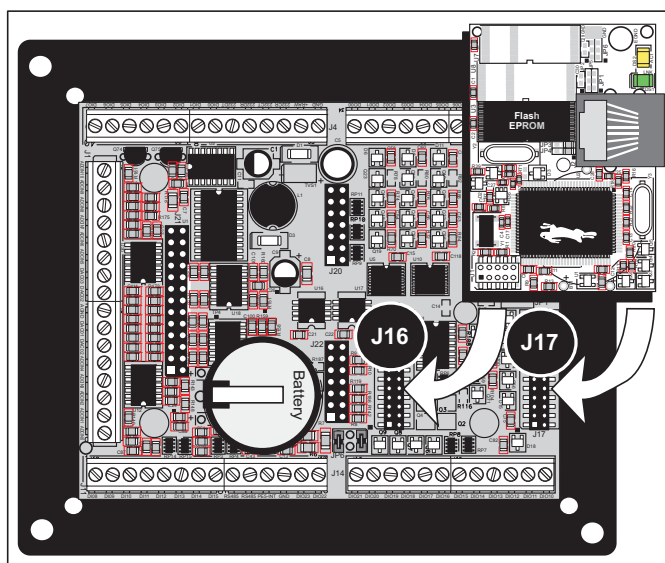

Figure D-3. Reconnect Module to BL2100 Main Board
3. Reconnect the RabbitCore module to headers J16 and J17 on the BL2100 main board as shown in Figure D-3. Be careful to align the pins over the headers, and do not bend them as you press down to mate the module with the BL2100 main board.